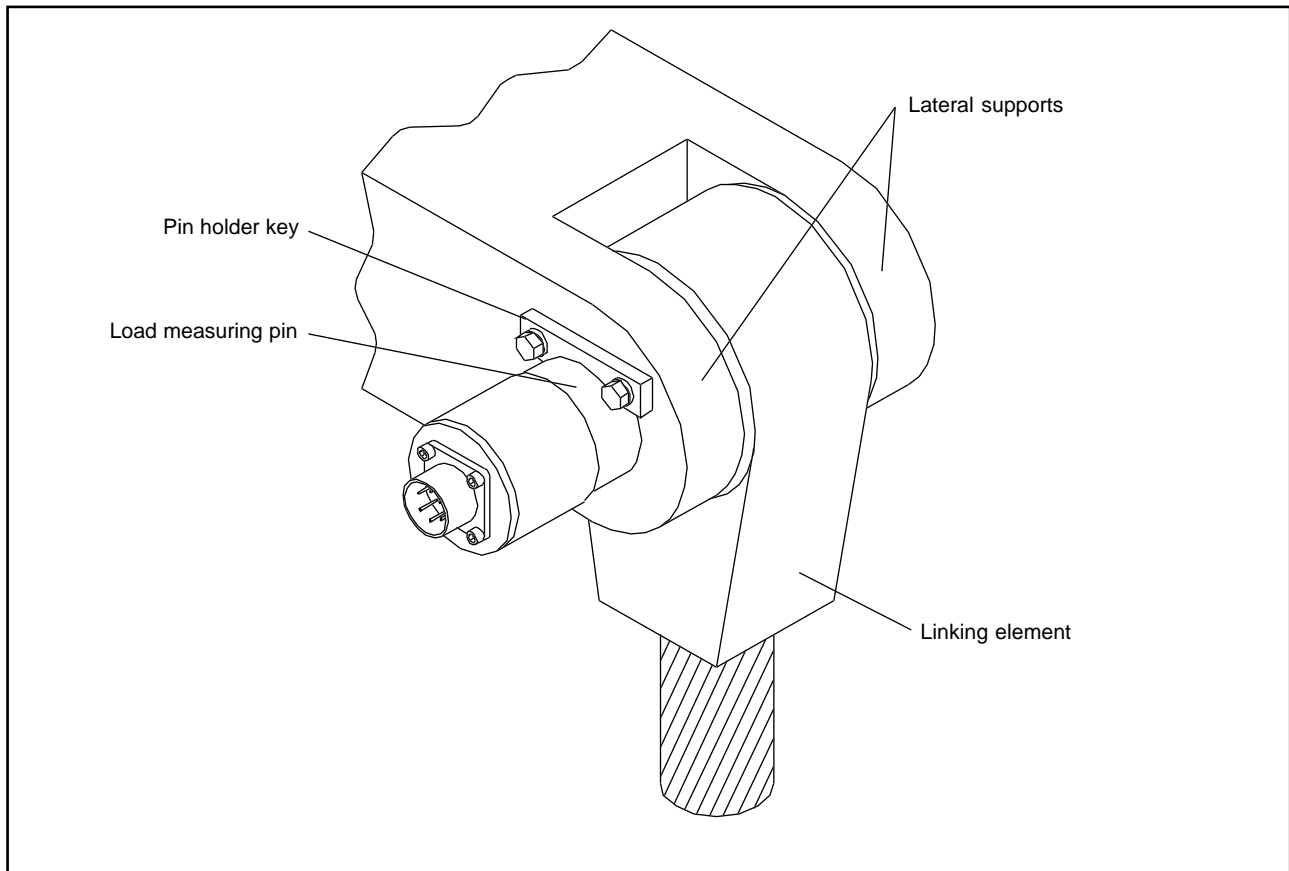
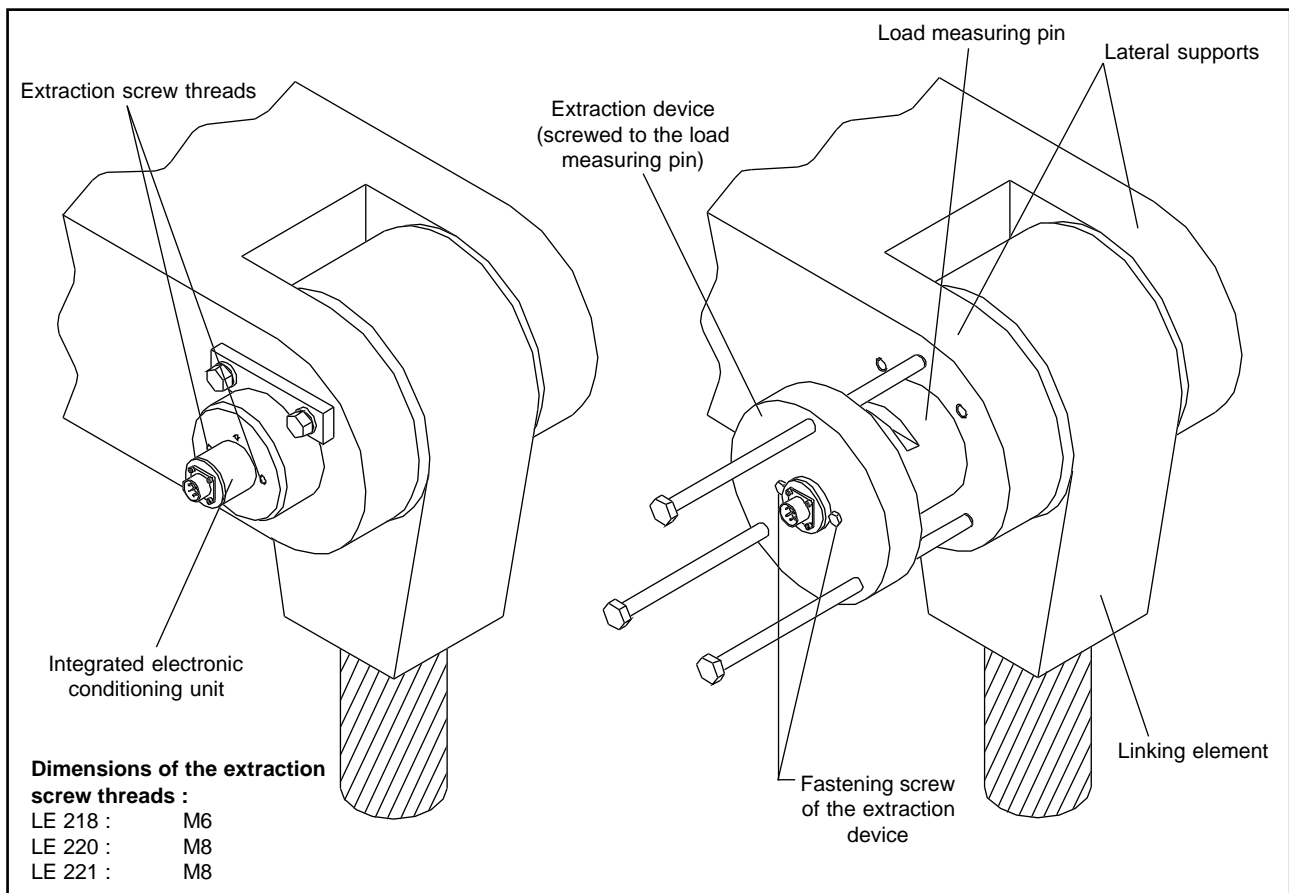

Fig. 4-6 : Mounted load measuring pin; LE 210 to LE 217.
Fig. 4-7 : Pulling out the load measuring pin by means of an extraction device (principle);
- 8) Place the two fastening screws, fitted with their washers, into the holes of the pin holder key (see figure 4-6), and screw them into the previously threaded holes, applying the screwing torque specified in figure 4-3.
- Load measuring pins LE 218 to LE 221 are fitted with two extraction screw threads at each end (see figure 4-6). These ought to be used to fix the extraction device (not provided by Vibro-Meter). We recommend fixing it on the same side as the electrical connector to avoid any damage when pulled out on the opposite end (see figure 4-7).